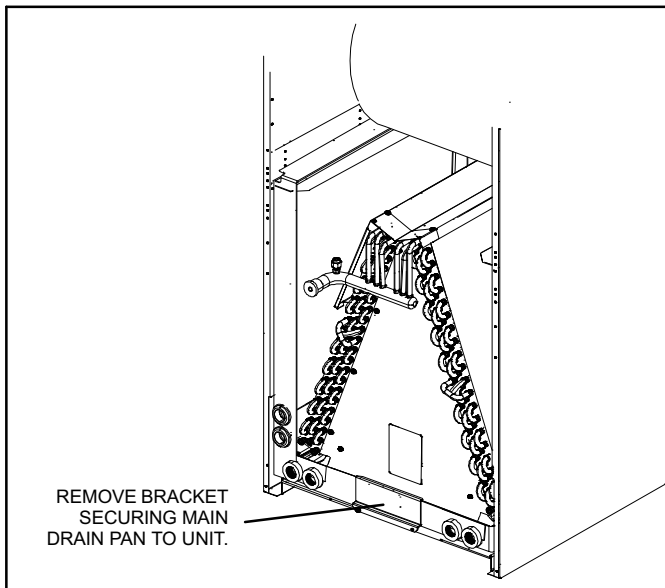

**Figure 3. Suspending Horizontal Unit**
- If the unit is suspended, the entire length of the cabinet must be supported. If you use a chain or strap, use a piece of angle iron or sheet metal attached to the unit (either above or below) to support the length of the cabinet. Use securing screws no longer than 1/2 inch to avoid damaging the coil or filter. See figure 3. Use sheet metal screws to connect the return and supply air plenums as required.